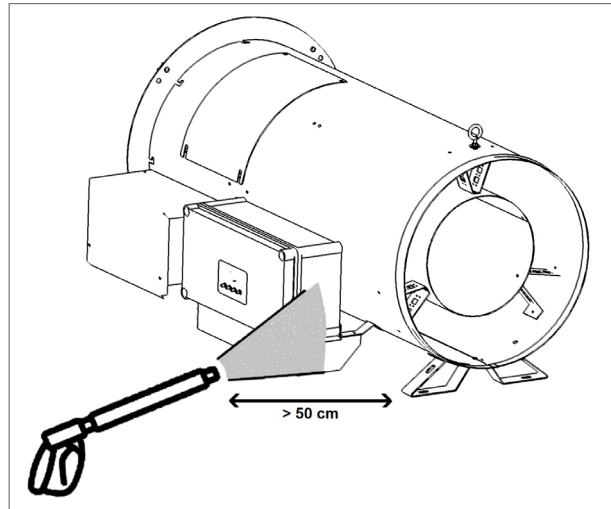

Figure 19 - Maintain a distance of 50 cm between the spray nozzle and the surface of the air heater being cleaned
2. Maintain a distance of 50 cm between the spray nozzle and the surface of the air heater being cleaned (figure 19).